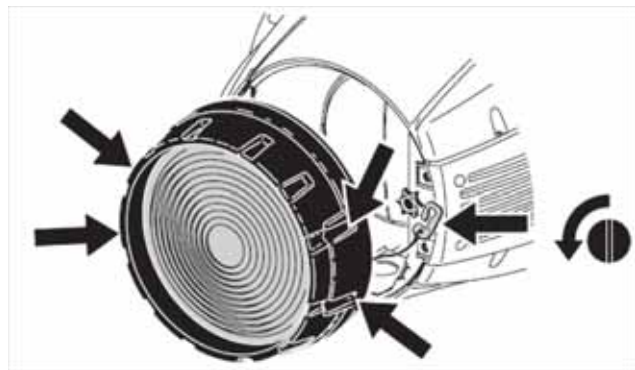

Figure 38
42. See Figure 38. Use a large flathead screwdriver to release the four quarter-turn retaining screws that hold the front lens, loosen the safety strap thumbscrew, unhook the safety strap and remove the front lens. Keep the lens for re-use.